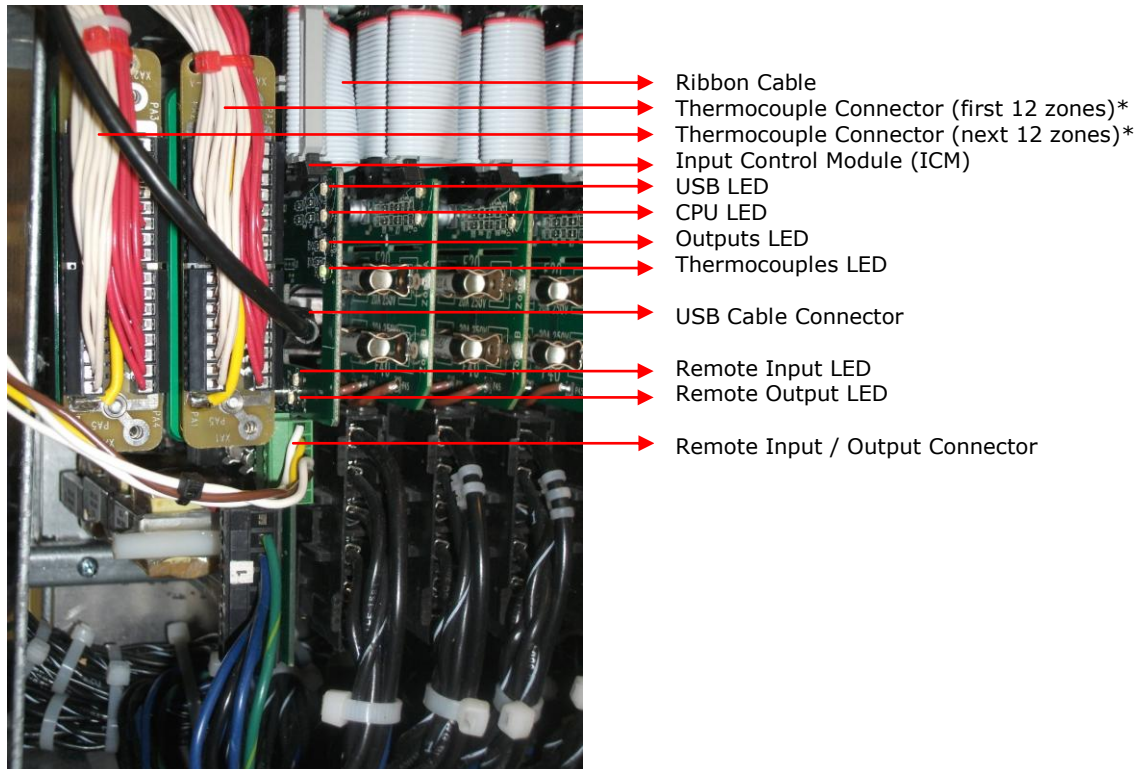

Figure 33c ICM Board LED Locations (left side block)*
The G24 has an Input Control Module (ICM) board that is located on each rack of the enclosure near the rear of the enclosure as shown in Figure 33c. This board is responsible for communication between the touchscreen, the thermocouple cards (attached to the ICM) and the output cards on that rack. There are four LEDs mounted vertically on the ICM located just below the ribbon cable that can be very useful in diagnosing any communication problem that arises. Figure 33b indicates the LED light status for each of the four LEDs with Notes listed for each possible condition.
Just below the four ICM LEDs are two more LEDS that indicate the status of remote inputs and outputs if remote inputs and outputs have been ordered. See Figure 33c. The LEDs are located between the USB cable connector and the green Remote Input / Output connector below the Input Control Modules LEDs. The first remote input and output are found on the first ICM board. If there is another pair of I/O, it will be located on the ICM on the next enclosure below.
* Figure 33c shows the layout for the ICM board for those blocks that have enclosure doors that open to the left side of the controller. For blocks with enclosure doors that open to the right side of the controller, the second thermocouple connector on the board will be in a different location. The second thermocouple board will be mounted on the forward side of the ICM board and forward in relationship to the first thermocouple board.